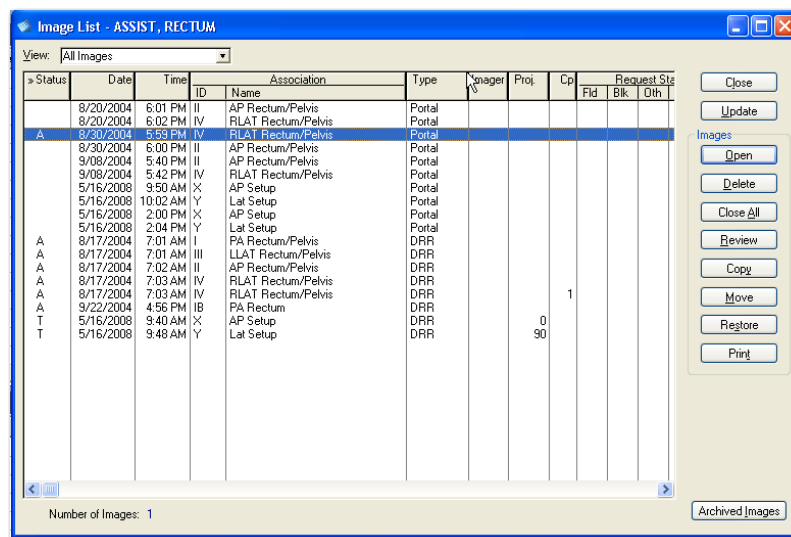

Figure 69: Image List Window
- Select a patient record as shown in Figure 69.